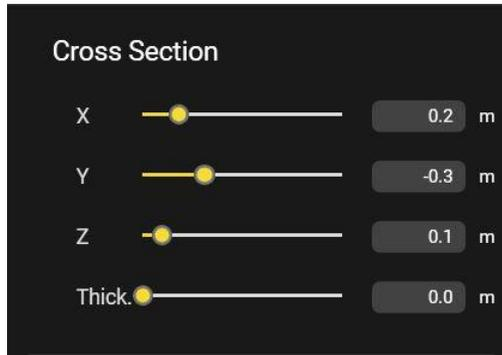

Fig. 28 Cross Section Customization Menu
a. **Cross Section** (Fig. 28),